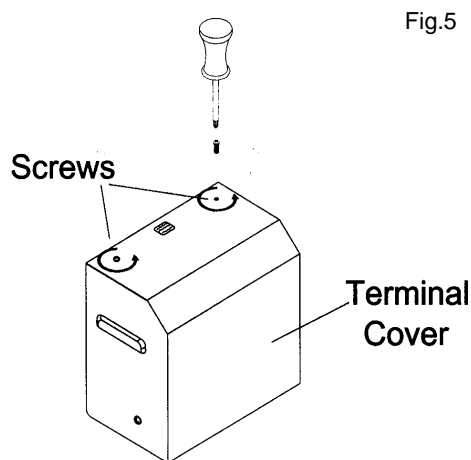
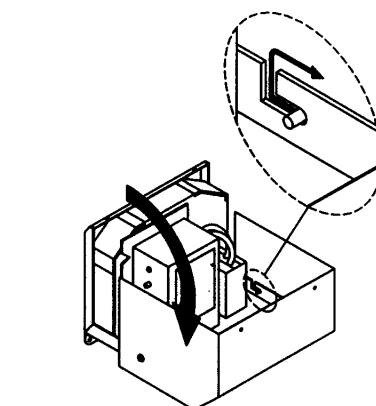

Fig.5
Fig.6
- Remove the fan cover by unscrewing the two corner screws as shown in fig.5. This will allow the cover to be lifted off. (see Fig.6)